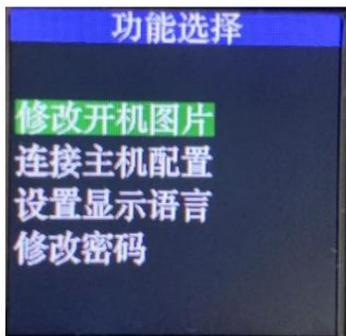
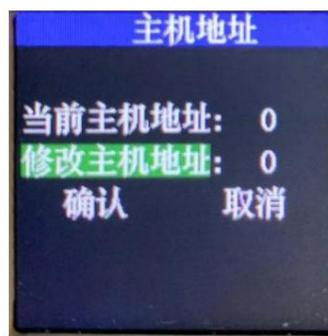
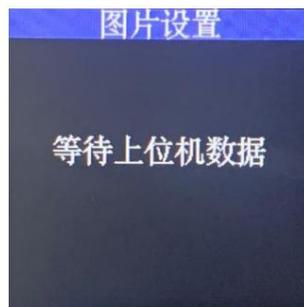

Figure 22 Function selection
Figure 23 Host configuration
Figure 25 Picture settings
Until the interface shown in Figure 22 appears, then select the connection host configuration. At this time, the micro operation is waiting for the main control card to send the address signal as shown in Figure 23.
The computer will automatically connect to each other. If you accidentally click on the interface in Figure 23 when turning on the computer , subsequent connections will not be able to connect. You need to follow the above operations.
After powering on, the interface shown in Figure 22 will appear. Select "Modify boot image" to enter. The interface jumps to Figure 25, which displays
(9) Modify the display language: Follow the above operation to enter the function interface in Figure 22, select the setting language, and select Medium after entering
(10) Change password: Figure 22 Enter the interface to change password, enter the old password once, and enter the new password after success.